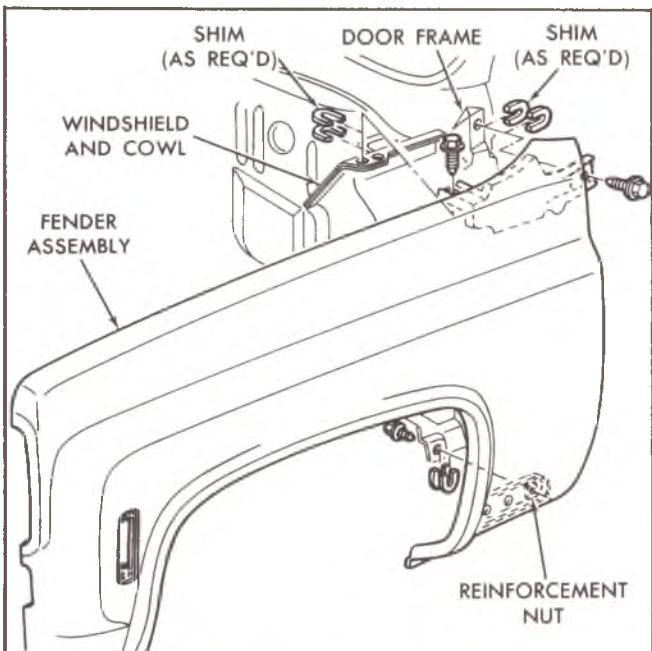

Fig. 10—Front Fender Assembly—CK Series
3. Install combination bolt and flat washer assembly into each fender reinforcement while inserting shims required between fender reinforcement and body (See Figure 10).
FRONT FENDER (FIG. 10)